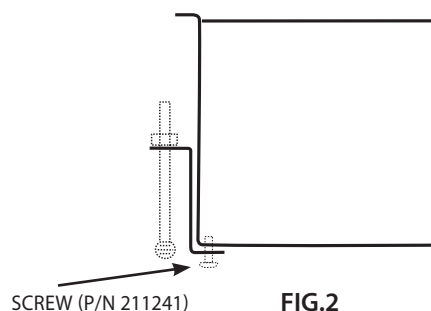

FIG.2
- Step 6: Tighten the 4 preloaded thumb screws which will keep the unit secured. Do Not Over-tighten (See Figure 2 detail below).